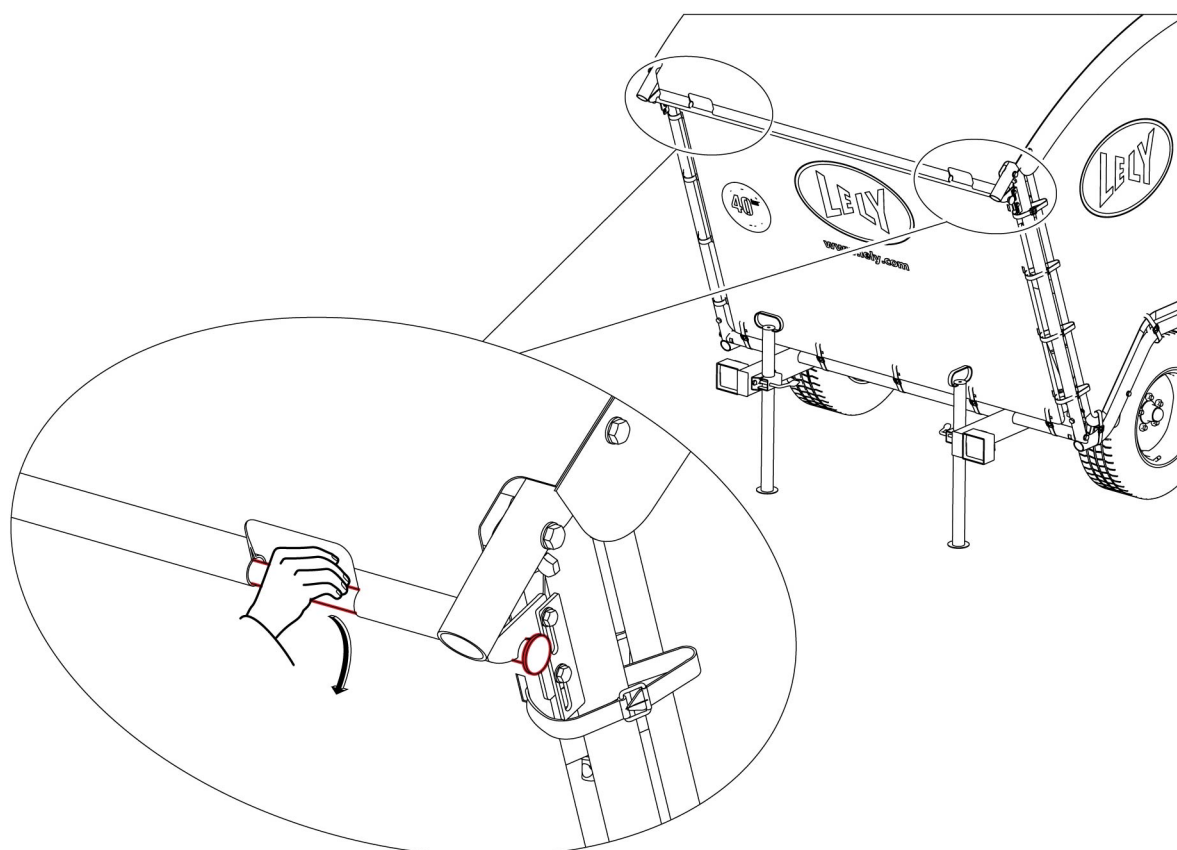

Figure 12. Remove the top canvas
1. Remove the top canvas (fig. 12, page 6-2).